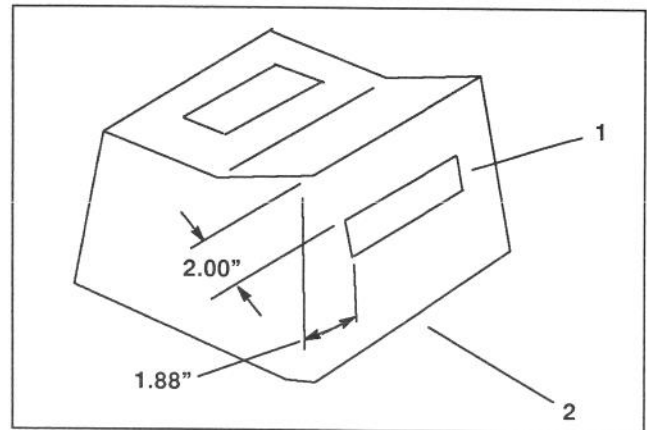

Figure 20
1. Using dimensions shown in figure 20, position and